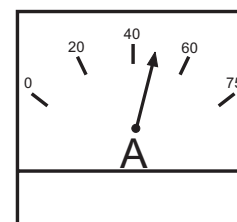

Figure 30. Ammeter (Load)
19. Observe the generator's ammeter (Figure 30) and verify it reads the anticipated amount of current with respect to the load. The ammeter will only display a current reading if the load is in use.